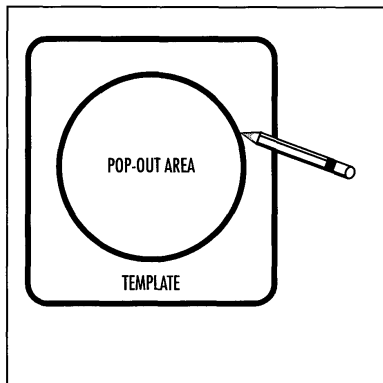

FIGURE 6
3. Using the template, trace the installation location with a pencil. You can do this by holding the template in your preferred location and tracing within it or around it. This is the exact cutout size. [Figure 6]